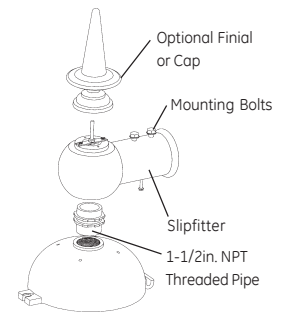

Figure 2
- When mounting to a horizontal arm (2-3/8" OD pipe) the bottom of the arm should be pre-drilled with a 3/8" - 1/2" clearance hole, 2" from the end. The slip fitter should then be slid completely onto the arm until it reaches the internal stop. Align the bottom hex-head screw with pre-drilled hole and fully engage bolt. The two mounting bolts should be oriented to the top of the arm and tightened to 12-15 foot-pounds. See Figure 1. The slipfitter is provided with a 1-1/2" NPT threaded pipe nipple which is to be inserted into leveling device or directly into top casting (depending on the luminaire configuration ordered) and jam nut fully tightened. See Figure 2.